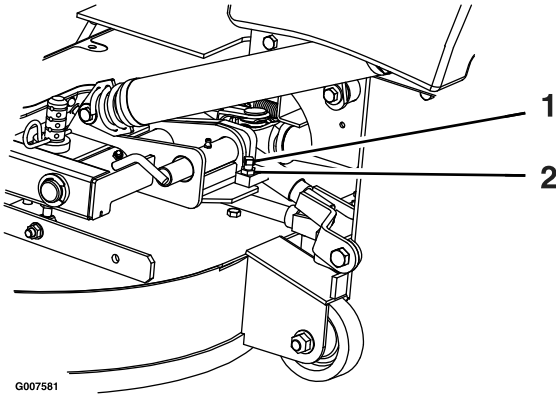

Figure 61
2. Loosen the jam nut and turn the stop screw clockwise until the locking pin is tight and cannot be rotated by hand (Figure 61).